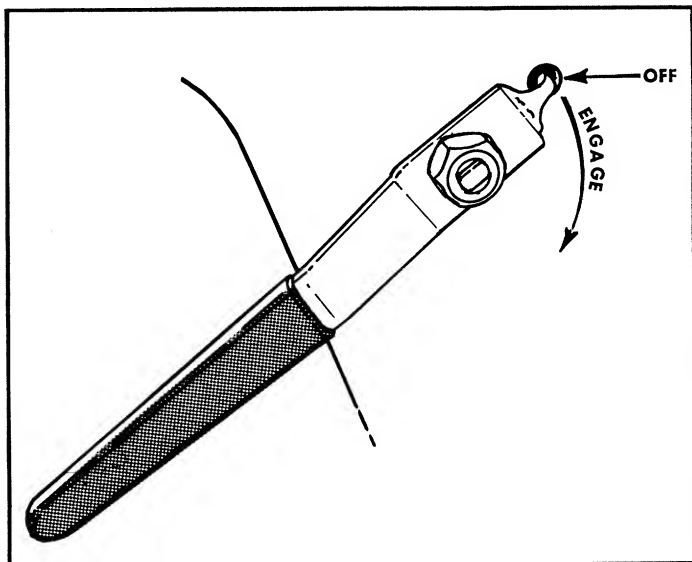

FIGURE 14. PTO LEVER
The PTO Lever must be in the disengaged position before the engine will start. See Figure 14.
7. Place the PTO Lever in the disengaged position. See Figure 14. The engine will not start unless the PTO Lever is disengaged.